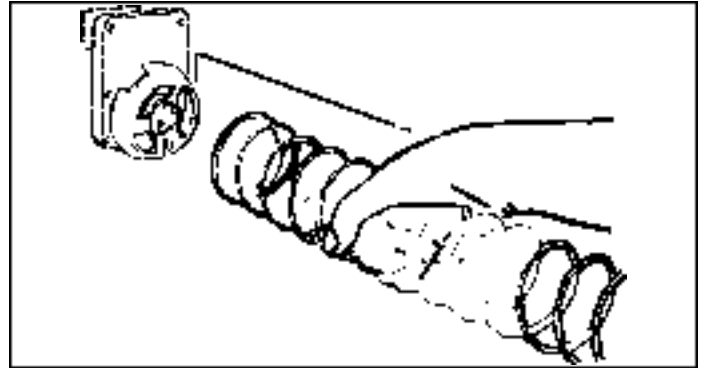

Figure 3. REMOVING AND INSTALLING SPIRAL.
4. REMOVAL OF SPIRAL: Grasp the front of the spiral and turn it clockwise. Lift the spiral up and off of the spiral lock. When replacing a spiral attach it around the tab on the spiral lock and turn the spiral counterclockwise to lock it in place. Be sure the front end of the spiral is positioned properly (with the front end of the spiral pointing downward on the left side) (see Figure 3). The spiral lock is attached between the spiral retainer tabs. Give a light forward pull on front of the spiral to check it is locked in place.
These spirals are removed and installed the same as the large spiral (see Figure 3), except that the front end position is different (approximately 5 o'clock) (see Figure 5) and the front left side of the spiral must be behind the small tab located on the left side of the product space side wall (see Figure 5, Detail A).